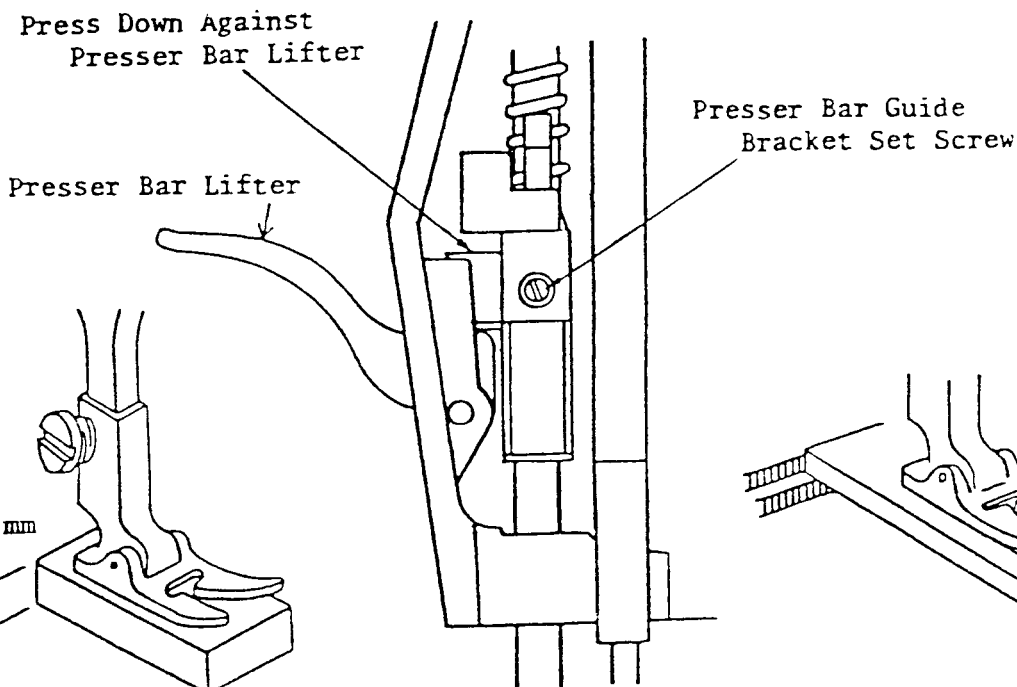

Fig. 23
5. Make sure the presser bar guide bracket is firmly in contact with presser bar lifter, then lightly tighten guide bracket set screw. (Fig. 23)